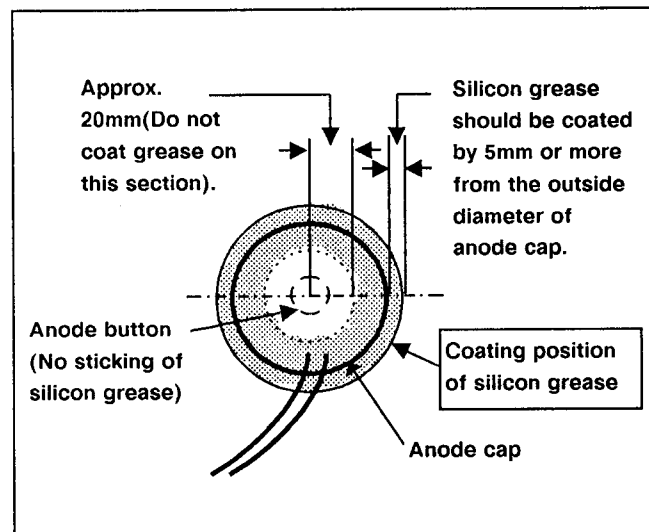

Fig. 8
- Coat silicon grease on the section around the anode button. At this time, take care so that any silicon grease does not stick to the anode button. (Fig. 8)
- 3] Press the UP/DOWN key again, and you will get the PICTURE SERVICE screen for PICTURE SERVICE adjustment. (Fig. 8)
(Fig. 8)